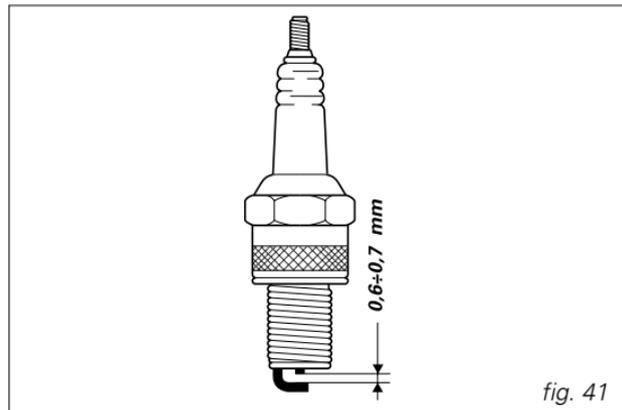

fig. 41
**Cleaning and replacing the spark plugs** (fig. 41)